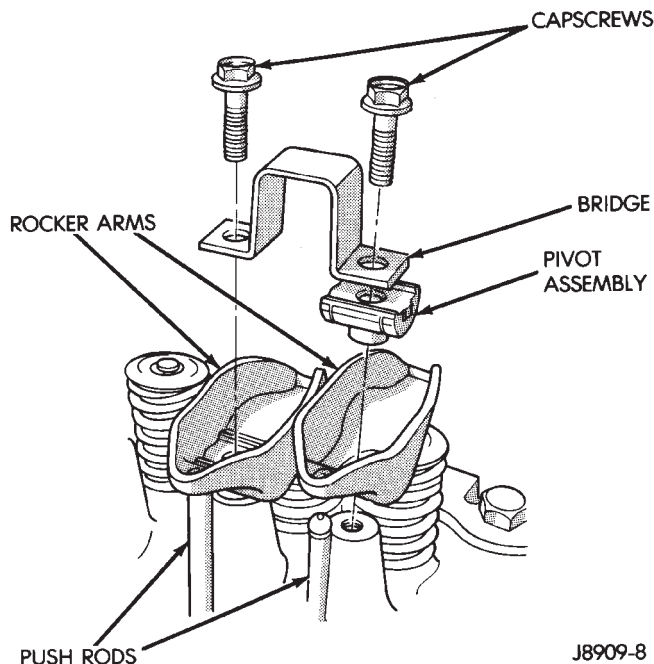
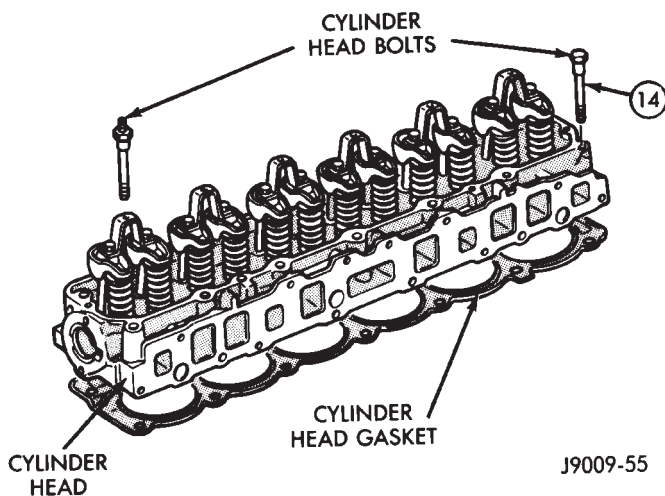

Fig. 13 Rocker Arm Assembly
Fig. 14 Engine Cylinder Head Assembly
- (1) Remove the engine cylinder head cover.
- (2) Remove the capscrews at each bridge and pivot assembly (Fig. 13). Alternately loosen the capscrews one turn at a time to avoid damaging the bridges.
- (3) Check for rocker arm bridges which are causing misalignment of the rocker arm to valve tip area.
- (4) Remove the bridges, pivots and corresponding pairs of rocker arms (Fig. 13). Place them on a bench in the same order as removed.
- (5) Remove the push rods and place them on a bench in the same order as removed.
- (2) Drain the coolant and disconnect the hoses at the engine thermostat housing. Do not waste reusable coolant. If the solution is clean and is being drained only to service the engine or cooling system, drain the coolant into a clean container for reuse.
- (3) Remove the air cleaner assembly.
- (4) Remove the engine cylinder head cover.
- (5) Remove the capscrews, bridge and pivot assemblies and rocker arms (Fig. 13).
(6) Remove the push rods (Fig. 13). **Retain the push rods, bridges, pivots and rocker arms in the same order as removed.**
- (7) Loosen the serpentine drive belt at the power steering pump, if equipped or at the idler pulley (refer to Group 7, Cooling System for the proper procedure).
- (8) If equipped with air conditioning, perform the following:
- (9) If equipped, disconnect the power steering pump bracket. Set the pump and bracket aside. Do not disconnect the hoses.
- (10) Remove the fuel lines and vacuum advance hose.
- (11) Remove the intake and engine exhaust manifolds from the engine cylinder head (refer to Group 11, Exhaust System and Intake Manifold for the proper procedures).
- (12) Disconnect the ignition wires and remove the spark plugs.
- (13) Disconnect the temperature sending unit wire connector.
- (14) Remove the ignition coil and bracket assembly.
- (15) Remove the engine cylinder head bolts. Bolt No.14 cannot be removed until the head is moved forward (Fig. 14). Pull bolt No.14 out as far as it will go and then suspend the bolt in this position (tape around the bolt).
- (16) Remove the engine cylinder head and gasket (Fig. 14).
- (17) If this was the first time the bolts were removed, put a paint dab on the top of the bolt. If the bolts have a paint dab on the top of the bolt or it isn't known if they were used before, discard the bolts.
- (18) Stuff clean lint free shop towels into the cylinder bores.